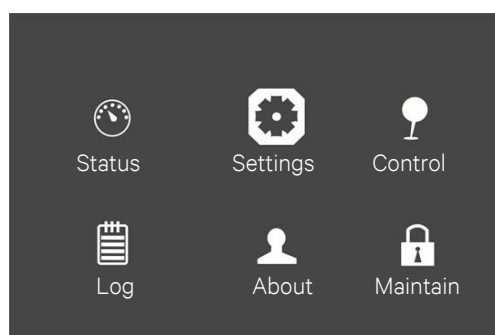

Figure 5-10 Main menu
1. On the main menu screen, press the or key to switch the cursor to select 'Settings', then press the key to confirm it. See Figure 5-10.